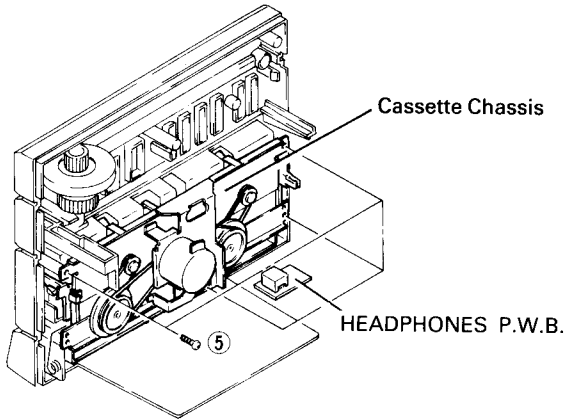

Fig.4
4. Cassette Chassis (Fig. 4)
5. HEADPHONES P.W.B. (Fig. 4)